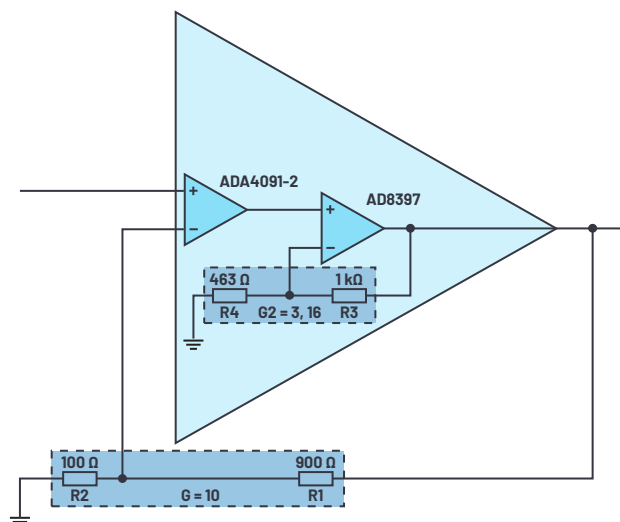

Figure 1. Schematic diagram of two op amps connected in series to form a composite amplifier.
A composite amplifier consists of an arrangement of two individual amplifiers, often with different characteristics. Such an arrangement is shown in Figure 1. Amplifier 1 represents the low noise precision amplifier, ADA4091-2. Amplifier 2, in this case the AD8397, features a high output power that serves to drive additional modules.
The configuration of the composite amplifier shown in Figure 1 is similar to that of a noninverting amplifier in which the two resistors, R1 and R2, act externally. The two op amps connected in series should be considered a single amplifier. The total gain (G) is set via the resistance ratio, $G = 1 + R1/R2$. A change in the ratio of R3 to R4—and in effect, the gain of amplifier 2 (G2)—also affects the gain or output level of amplifier 1 (G1). The effective total gain is not changed by R3 and R4. If G2 decreases, G1 increases.
In a typical op amp circuit, part of the output is fed back to the inverting input. In this way, output errors can be corrected via the feedback path to improve accuracy. The combination shown in Figure 1 also offers a separate feedback path for amplifier 2, although it is in the feedback path of amplifier 1. The output of the overall arrangement contains larger errors due to amplifier 2, but they will be corrected as they are fed back to amplifier 1. Thus, the accuracy of amplifier 1 is retained. The output offset is only proportional to the error of the first amplifier and remains independent of the offset of the second one.
Through a combination of two amplifiers connected in series, the best characteristics of both can be combined while achieving results that are unattainable with individual op amps. For example, a high precision amplifier with a high output power and a higher bandwidth can be achieved. Figure 1 shows an example of a circuit with the rail-to-rail amplifier, AD8397 (-3 dB bandwidth = 69 MHz), and the precision amplifier, ADA4091-2 (-3 dB bandwidth = 1.2 MHz), which in combination have a bandwidth that is more than twice as high as they each have individually (at $G = 10$). Furthermore, with the combination of the AD8397 and various precision amplifiers, noise reduction as well as THD improvements can be achieved. However, in the design, system stability must also be ensured through a correct amplifier configuration. If all criteria are considered, the composite amplifier offers numerous possibilities for covering a very wide and demanding range of applications.